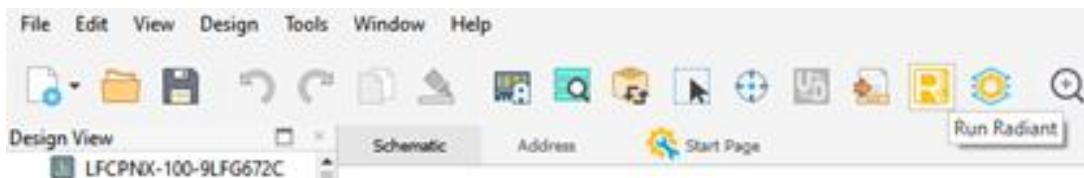

Figure 8.47.Run Radiant Icon
1. Click the Radian icon from Propel Builder to launch the Radian software as shown in Figure 8.47.